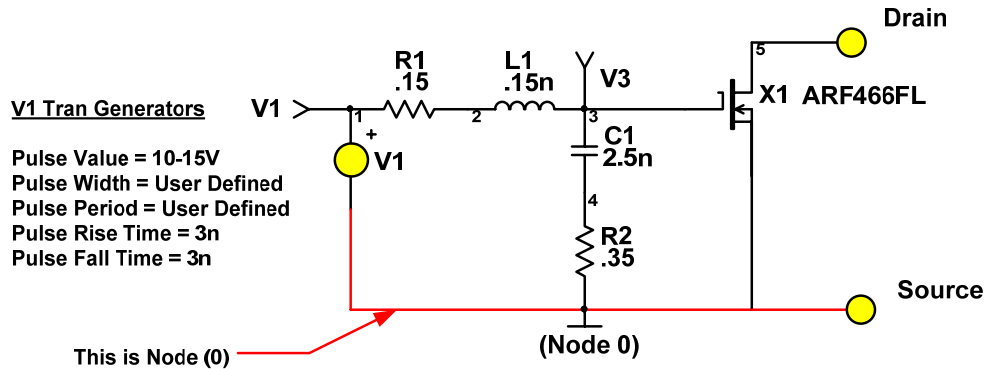

Figure 8 DRF1200
The Model illustrated in Figure 8 will operate correctly for any signal type or value at node (0).